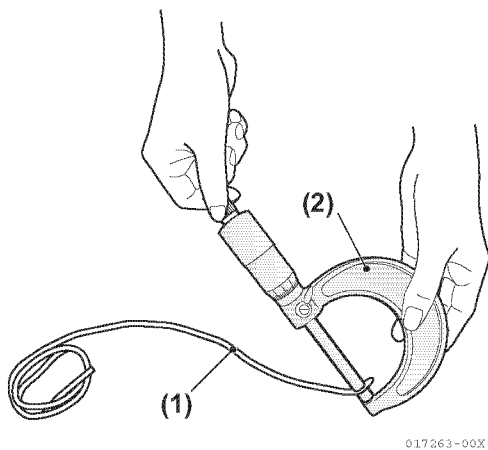

Figure 5-82
- Measure the three positions where each fuse is broken and calculate the average (**Figure 5-82**).